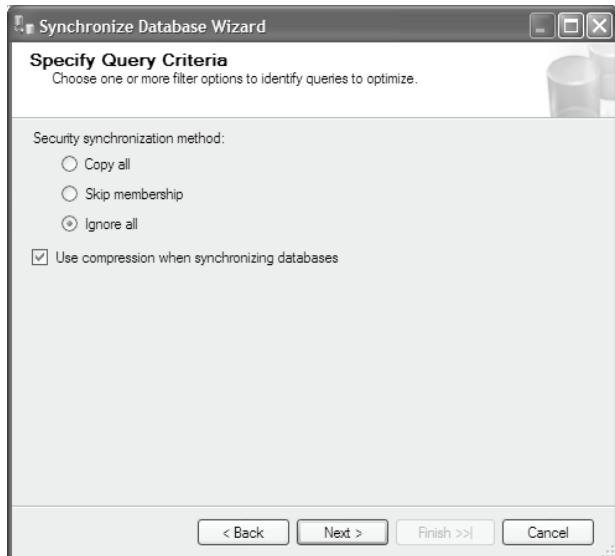

Figure 13.16 The Synchronize Database Wizard allows you to preserve the security settings on the target server.
3. Also, the wizard supports a limited customization. For example, you can use the Specify Query Criteria step (Figure 13.16) to preserve the security settings on the production server. Assuming that we want to preserve all security settings, select the *Ignore all* option.